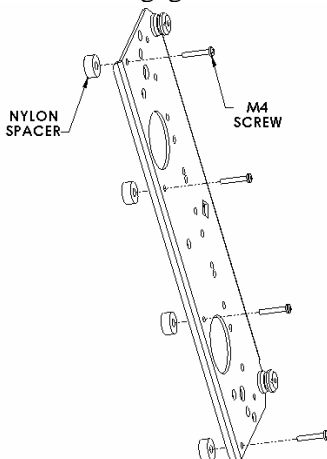
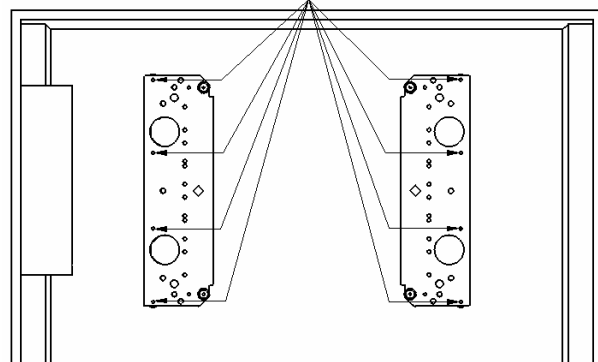

Figure 4
Figure 5
- Place Nylon spacers on mounting holes and align hole pattern on brackets with pattern on back of display (see Figure 4 & Figure 5). Attach bracket using the M4 screws.